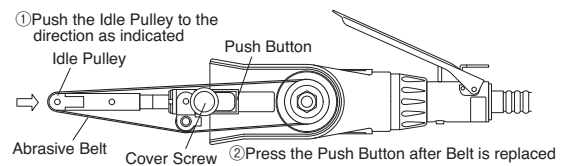
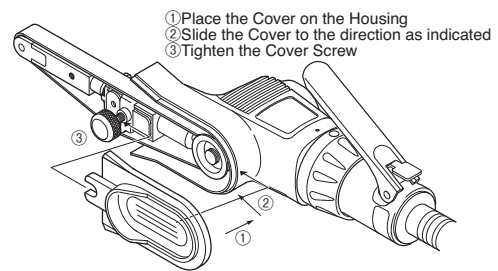

Fig. 4
Fig. 5
**4-3. Changing the Abrasive Belt (Fig. 4 and 5)**
Change the Abrasive Belt with a new one and press the Push Button. The Tension Bar is unlocked. (Fig. 4) Remount the Cover correctly and tighten the Cover Screw firmly. (Fig. 5)